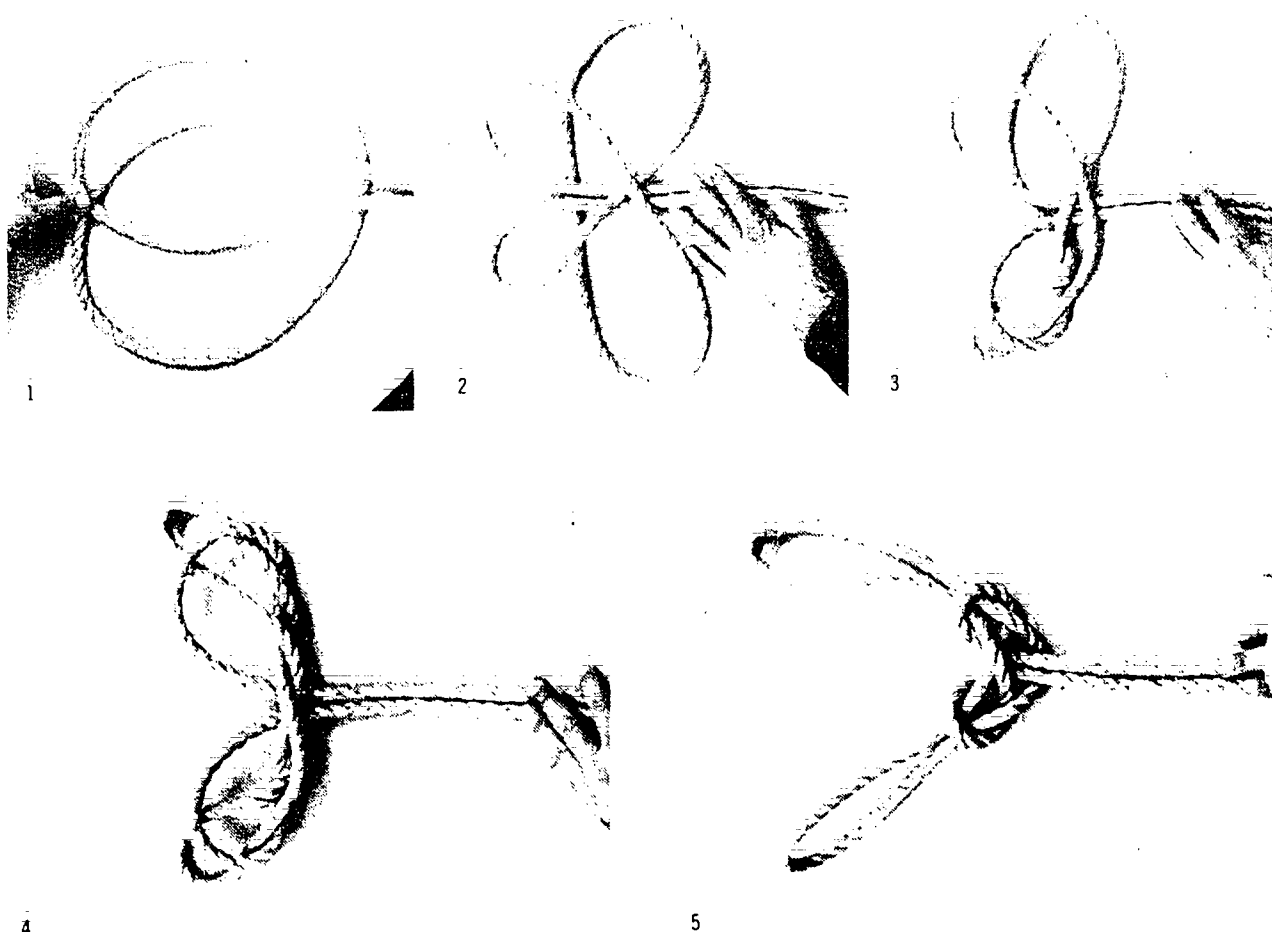

Figure 7-14. Tying a Spanish Bowline
5. A **Spanish bowline** forms two loops or "rabbit ears" providing a double sling for lifting round objects or for rescue work. Figure 7-14 illustrates the steps in tying a Spanish bowline.